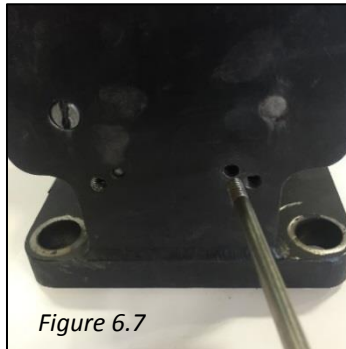

Figure 6.7
2. Apply thread lock to the lift stops. Now install the lift stops through one spring bracket and into the other spring bracket on the opposite side. Wrench tighten with a slotted screw driver until they are equally spaced between the spring brackets. (Figure 6.7)